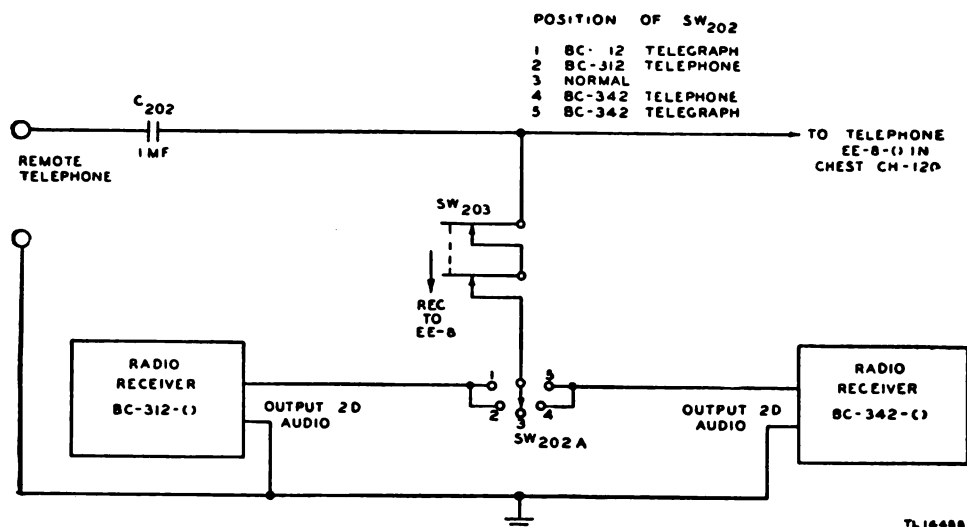

Figure 88. Transmitter control switch in REC. TO EE-8 position—functional diagram.
d. REC. TO EE-8 POSITION (fig. 88). When switch SW_{203} is set to REC. TO EE-8 and switch SW_{202} is set to either TELEPHONE position, switch SW_{203} performs one function: Switch SW_{203} connects the output from either Radio Receiver BC-312-() or BC-342-() to the ungrounded REMOTE TELEPHONE terminal through capacitor C_{202} .
(1) When switch SW_{203} is set to REC. TO EE-8, the A section of switch SW_{202} (fig. 88) switches the a-f outputs from either Radio Receiver BC-312-() or BC-342-() to the REMOTE TELEPHONE terminals of the junction box.